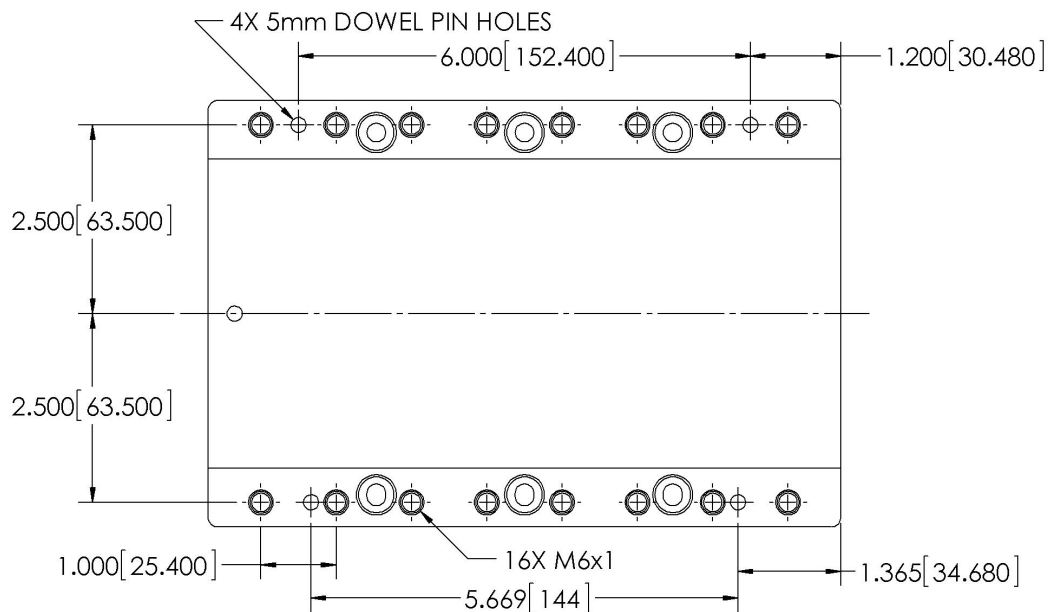

Figure 1. Carriage bolt hole pattern
The bolt pattern on the Carriage has been designed to facilitate process equipment installation. The Carriage has (16) sixteen M6x1 mounting holes with a depth of 0.40 inch (10 mm) to provide secure attachment points. The mounting holes are spaced 5 inches (127 mm) across and on 1 inch (25.4 mm) centers along the length of the Carriage. (See Figure 1) The Carriage also has (4) four 5mm dowel pin holes to facilitate alignment. (See Figure 1 for location) These dowel pin holes are oversized to allow the pins to be glued into place using Loctite 609, or equivalent. **DO NOT press pins into the AFD Carriage as this will damage the Linear Rails.**